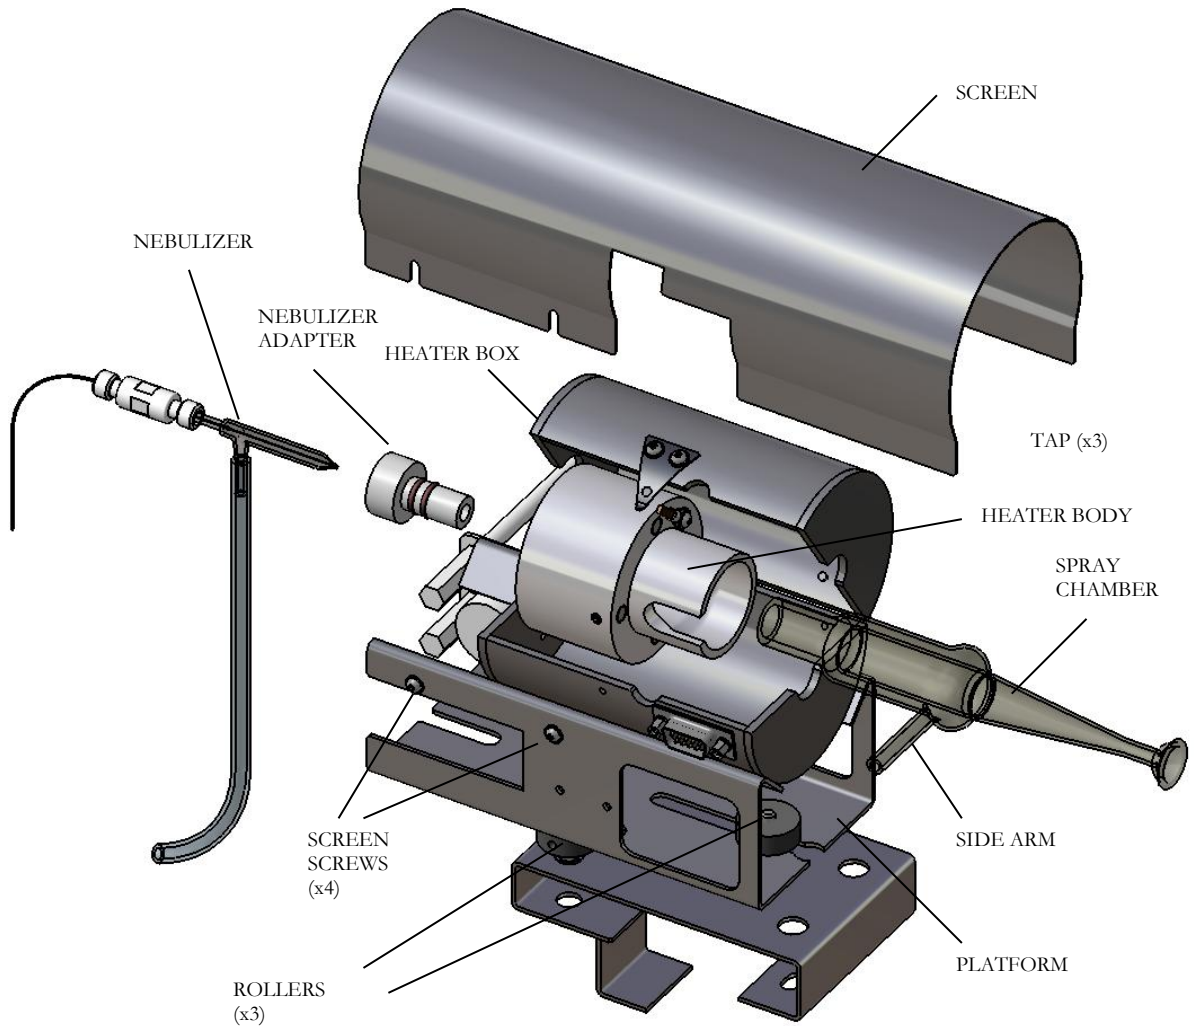

Figure 3.1. Heater Module details
- 1) Loosen the four Screen Screws (see Figure 3.1 below).
The Injector (narrow center tube of the ICP Torch) needs to be cleaned at the same frequency as the Spray Chamber. To clean the Injector, the Torch Holder Assembly needs to be removed from the Torch Box, and the Torch needs to be removed. Before removal of the Torch Holder Assembly, free up the room in front of the Torch Box by sliding out the Heater Module Platform (refer to Fig. 3.1). To do so:
- 1) Loosen the four Screen Screws (see Figure 3.1).